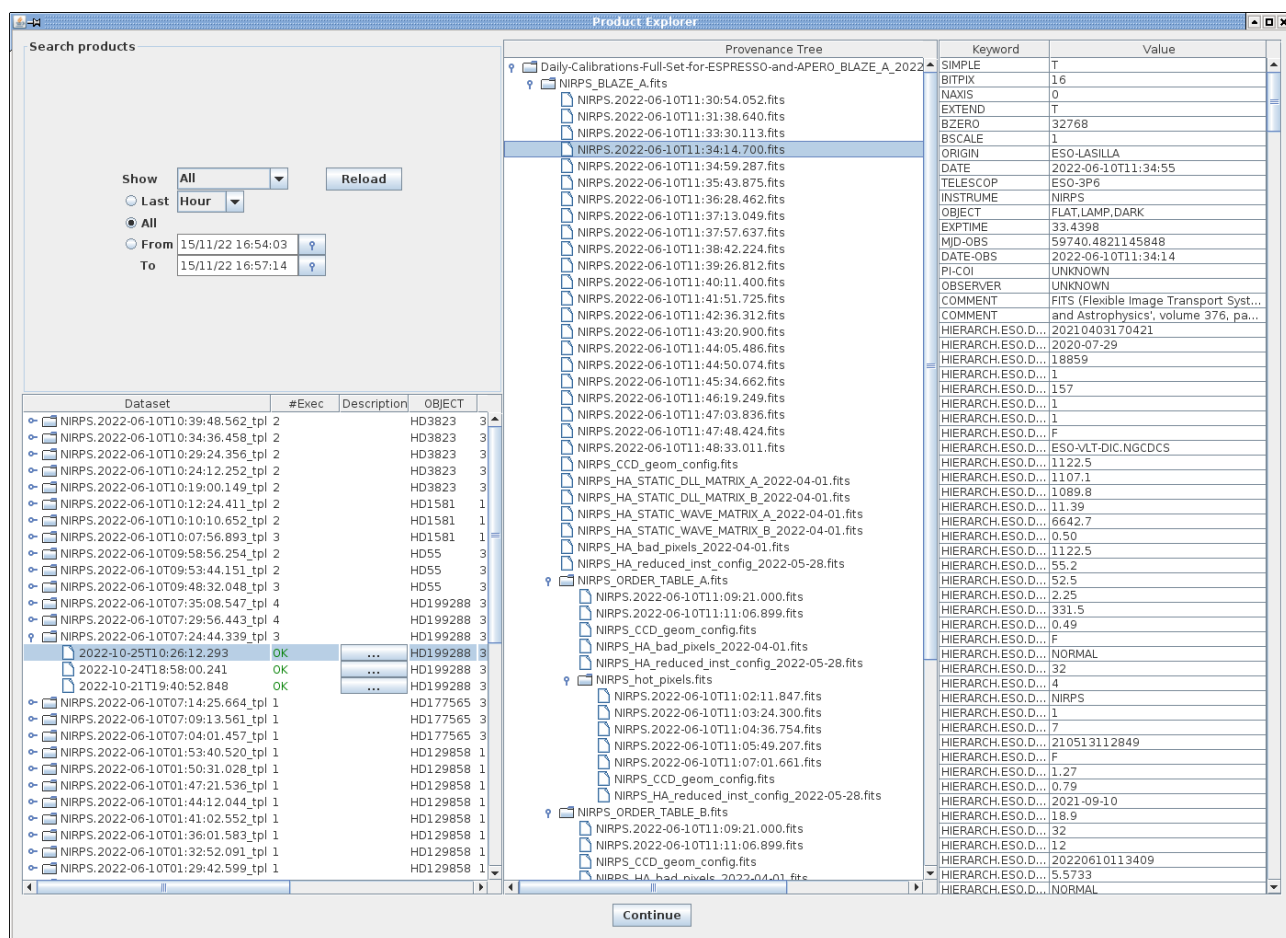

Figure 4.0.4: *The Provenance Explorer shows all datasets reduced in previous executions together with the full reduction chain for all the pipeline products.*
- Once the reduction of all datasets has finished, a pop-up window called *Product Explorer* will appear, showing the datasets which have been reduced together with the list of final products. This actor allows the user to inspect the final data products, as well as to search and inspect the input data used to create any of the products of the workflow. Figure 4.0.4 shows the *Product Explorer* window. A full description of the *Product Explorer* will be presented in Section 6.3.5.